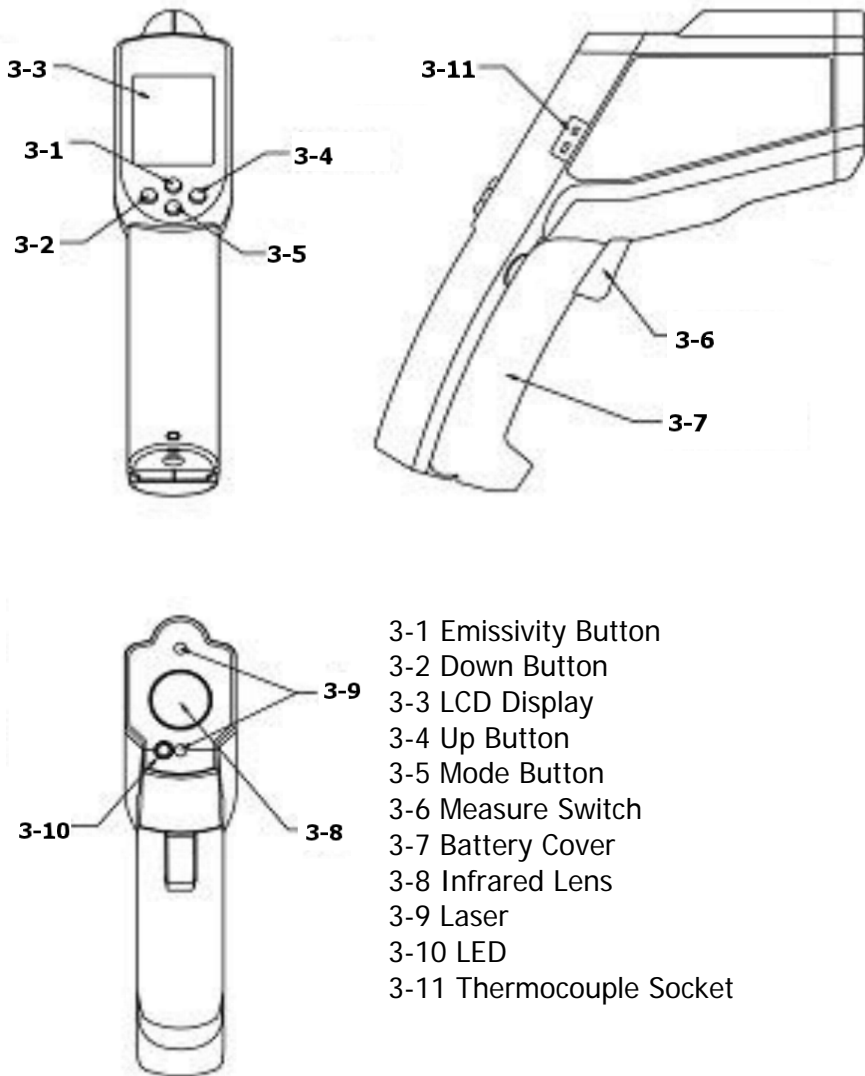

Fig. 1
2) Simply aim the thermometer at the measure target with " Infrared Lens (3-8, Fig. 1) and press " Measure Button " (3-6, Fig. 1) to display the surface temperature. The Distance : Spot is 50:1. The two laser points are the reference for the target spot size. Please make sure the target area is within the field of view.
3) Press " Emissivity Button " (3-1, Fig. 1) for setting the emissivity
Press " Emissivity Button " (3-1, Fig. 1), then press " Up Button " (3-4, Fig. 1) or Down key (3-2, Fig. 1) to set the emissivity, then press " Mode Button " (3-5, Fig. 1) to confirm it. The emissivity can be changed from 0.10 to 1 .
4) Press " Mode Button " (3-5, Fig. 1) for scrolling more display function as follows.
Press Mode key (3-5, Fig. 1) for the Maximum (MAX), Minimum (MIN), Different between MAX and MIN (DIF) and Average (AVG) modes. During the measurement, the special modes reading will be displayed beside the mode icon.
Press " Up Button " (3-4, Fig. 1) or " Down Button " (3-2, Fig. 1) key to change the High Alarm (HAL) or Lo Alarm (LAL), then press " Measure Button " (3-6, Fig. 1) to confirm it. For example: When the reading $26.9\text{ }^{\circ}\text{C} < \text{LAL } 27\text{ }^{\circ}\text{C}$, the Low icon will flash and you will hear a beep sound.
Connect the thermocouple with " Thermocouple Socket " (3-11, Fig. 1) and put the probe in/on the target, the thermometer will display the temperature automatically without pressing any button. To see the minimum or maximum data during the probe measurement, please hold down the " Up Button " (3-4, Fig. 1) or " Down Button " (3-2, Fig. 1).  After measure high temp, the probe may remain HOT for a while
- a. Press " Up Button " (3-4, Fig. 1) for LOCK mode ON/OFF. The lock mode is particularly useful for continuous monitoring of temperatures for up to 60 minutes.
- b. Press " Down Button " (3-2, Fig. 1) for °C or °F transferred.
7) In all modes: First hold on the " Measure Button " (3-6, Fig. 1)
- a. and press " Up Button " (3-4, Fig. 1) for backlight function ON/OFF.
- b. and press " Down Button " (3-2, Fig. 1) for laser function ON/OFF. (With flash light be turned on in the same time as laser)